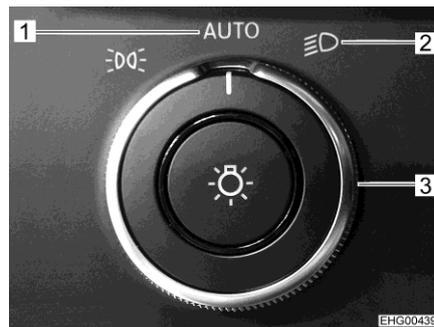

Fig. 12 Rotary light switch
- Turn the Mercedes rotary light switch (Fig. 12,3) to the position "AUTO" (Fig. 12,1) or to the position Driving light (Fig. 12,2).